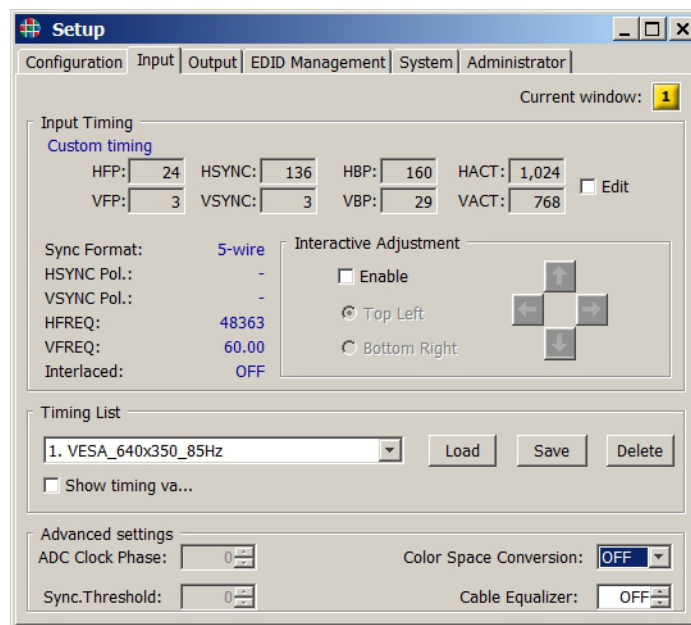

Figure 4-2 Setup Input Tab
3. Click on the **Input Timing** tab (Figure 4-2).